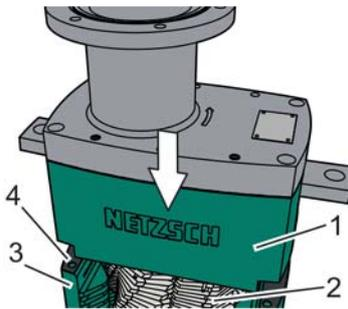

Fig. 81: Mounting the cutter block drive unit
For vertical assembly, lift up the cutter block drive unit (Fig. 81/1) and swing it over the machine housing (Fig. 81/3).
14. ▶ For horizontal assembly, separate the machine housing (Fig. 81/3) on the side from the cutter block drive unit (Fig. 81/1).
15. ▶ Fit the flat seals (Fig. 81/4), aligned with the outer contour and the boreholes, on the contact surface of the machine housing (Fig. 81/3).
Carefully lower the cutter block drive (Fig. 81/1) in the correct position into the machine housing (Fig. 81/3) and attach the machine housing to the cutter block drive unit. When doing so, ensure that the cutter blocks (Fig. 81/2) do not get caught on the components.